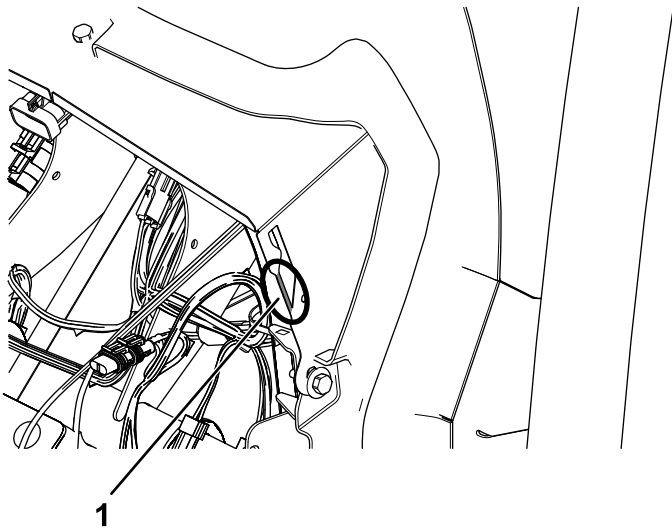

Figure 41
3. Using a tin snipper, remove the shipping tang from each side of the water gutter (Figure 41).